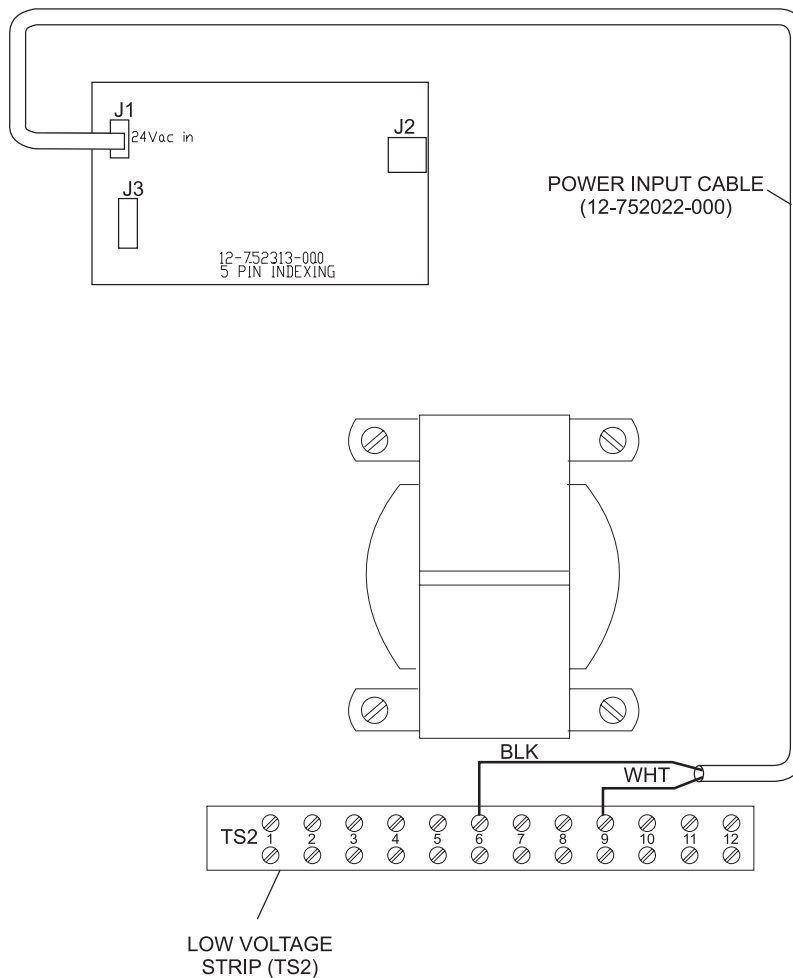

Figure 9
1. Connect the black wire from PCB "24Vac In", connector J1 to screw terminal #6 and the red wire to the screw terminal #9. The low voltage screw terminal strip (TS2) is located underneath the transformer. Refer to Figure 9.